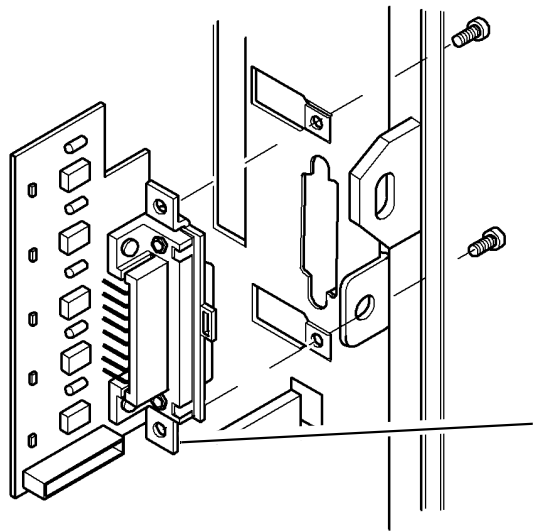

Figure 2 Installation
7. Install the foreign device interface PWB. Secure using the 2 cross head screws supplied in the kit, Figure 2.